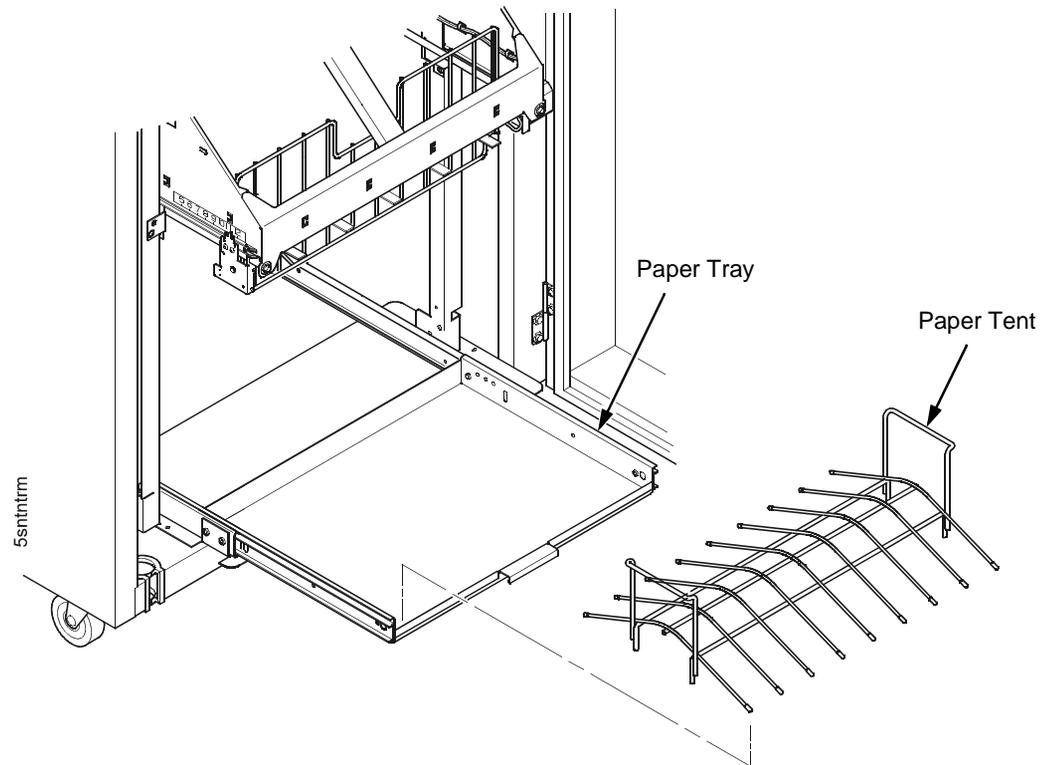

Figure 77. Removing the Paper Tent
4. Remove the paper tent. (Figure 77.)